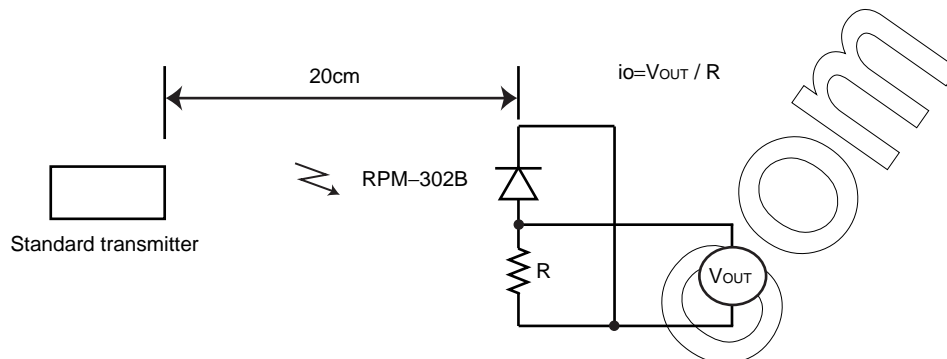

Fig.2 Measurement of standard transmitter proof reading.
*1 The burst wave form mentioned in Fig.1 is to be transmitted from standard transmitter(Fig.2)
When standard transmitter output the signal at Fig.1 standard photodiode output become $i_o=5\mu\text{A}$ under the measurement condition Fig.2.